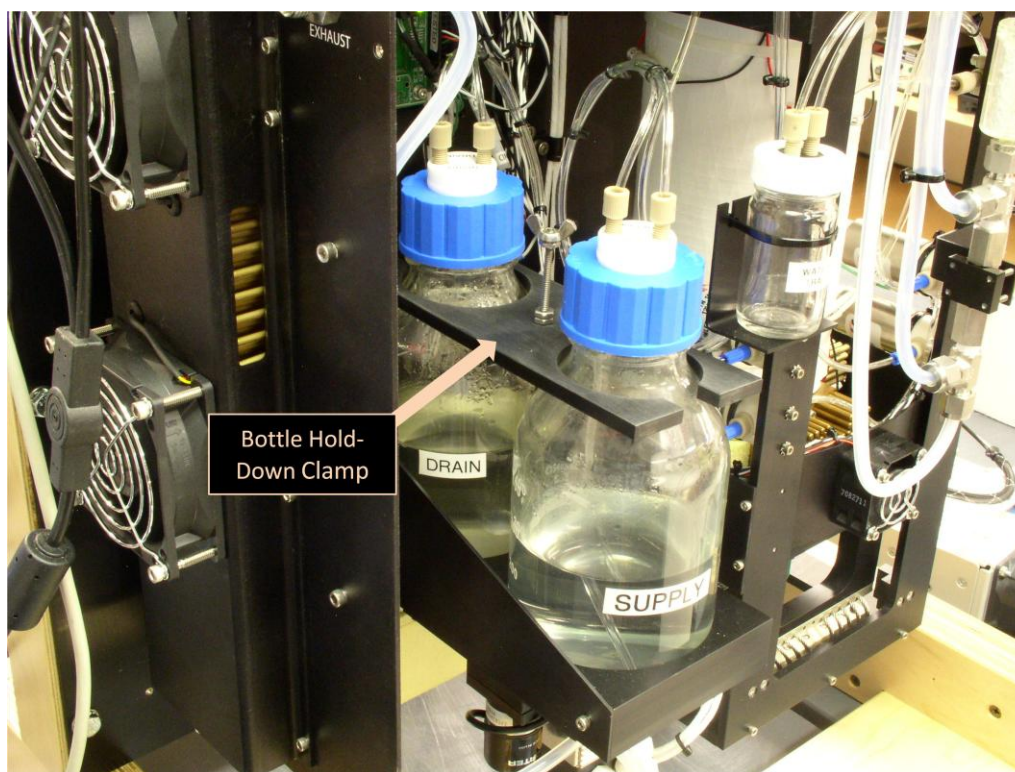

Figure 7: Bottle Hold-Down Clamp
4. Install the drain bottle in the bottle holder. The best location for the drain bottle is in the rear of the two slots in the bottle tray. See Figure 7.
7. For airborne applications, install the bottle hold-down clamp. See Figure 7.